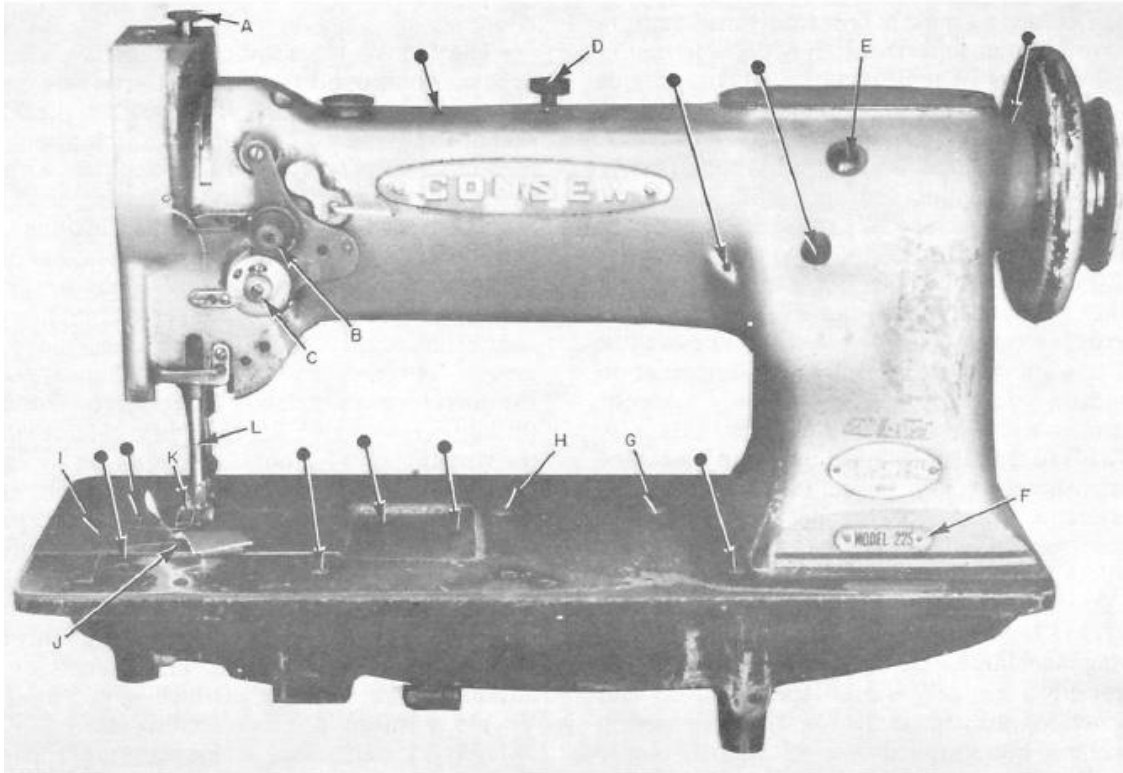

Figure 1: Front view showing oiling points (Consew 225 shown)
- a. Depress the plunger (figure 1 [H]), and turn the balance wheel toward the operator until the plunger drops; keep turning the balance wheel until it stops. This sets the maximum stitch length at 3 1/2 SPI.